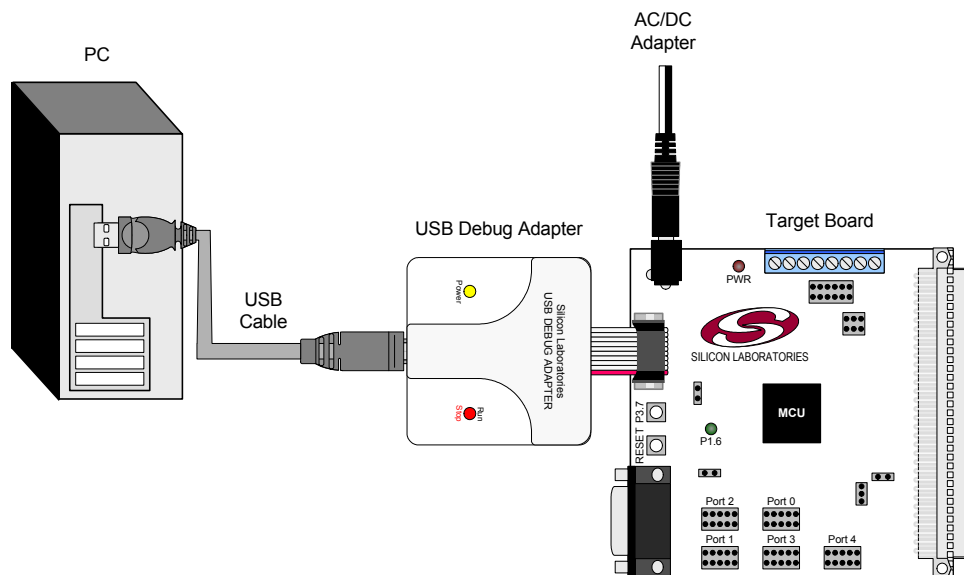
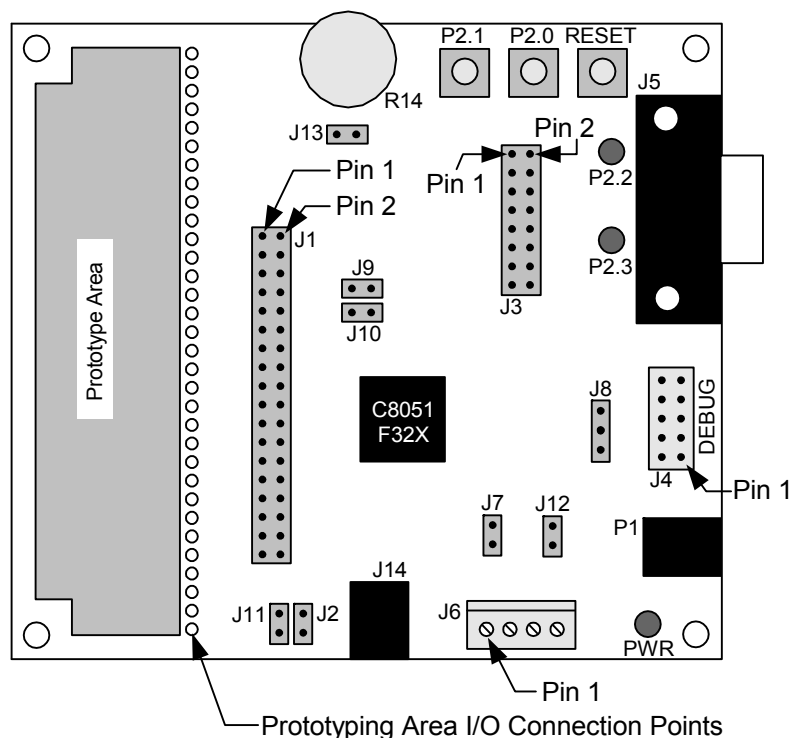

Figure 1. Hardware Setup using a USB Debug Adapter
Figure 2. C8051F320 Target Board
The target board is connected to a PC running the Silicon Laboratories IDE via the USB Debug Adapter as shown in Figure 1.
1. Connect the USB cable between the host computer and the C8051F320 target board, as shown in Figure 1. See Figure 2 on page 6 for the location of the USB connector.
5. See Figure 2 on page 6 for the location of headers, LEDs, switches, and potentiometer.
The C8051F32x Development Kit includes a target board with a C8051F320 device pre-installed for evaluation and preliminary software development. Numerous input/output (I/O) connections are provided to facilitate prototyping using the target board. Refer to Figure 2 for the locations of the various I/O connectors.
The 32-pin Expansion I/O connector J1 provides access to all signal pins of the C8051F320 device. Pins for +3 V, digital ground and the output of an on-board low-pass filter are also available. A small through-hole prototyping area is also provided. All I/O signals routed to connector J1 are also routed to through-hole connection points between J1 and the prototyping area (see Figure 2 on page 6). Each connection point is labeled indicating the signal available at the connection point. See Table 3 for a list of pin descriptions for J1.